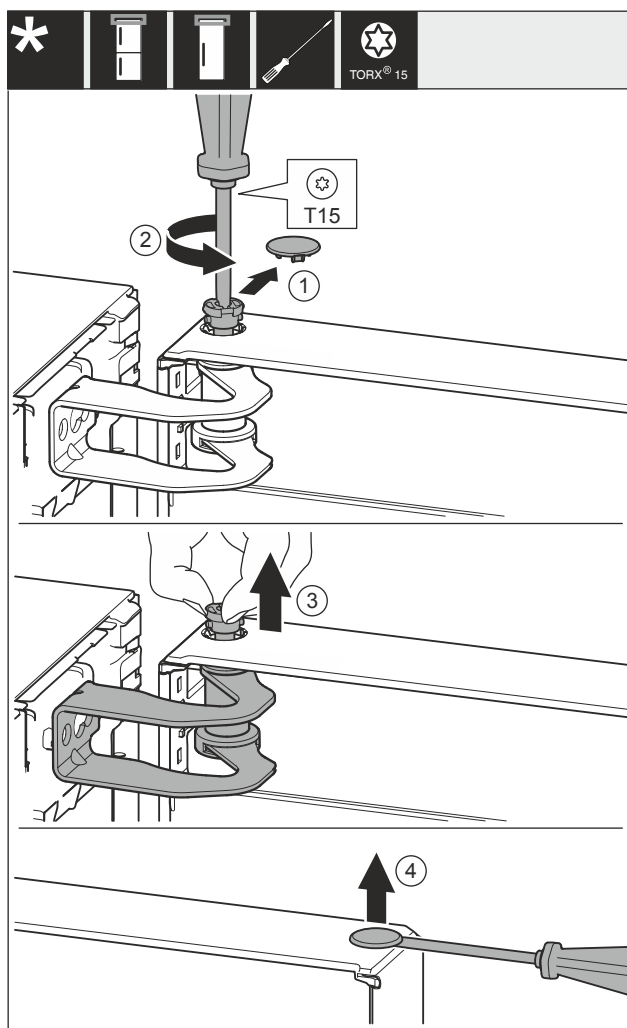

Fig. 29
- Carefully remove the cover Fig. 29 (1).
- Use screwdriver to loosen the bolts Fig. 29 (2) a little.
- Pull out the bolt Fig. 29 (3) with your fingers.
- Carefully lift and remove the cover Fig. 29 (4) with a screwdriver.